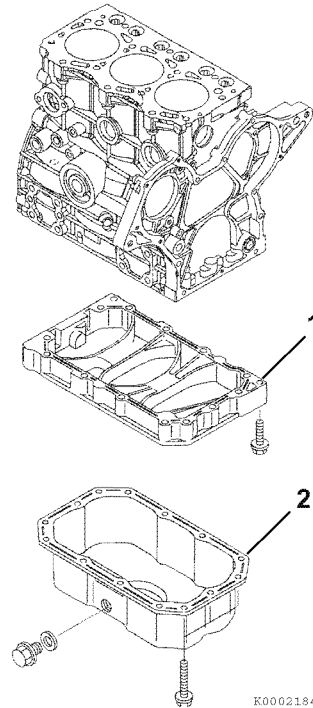

Figure 6-44
- Remove the oil pan (Figure 6-44, (2)).
- Remove the crankcase extension (Figure 6-44, (1)) if equipped.